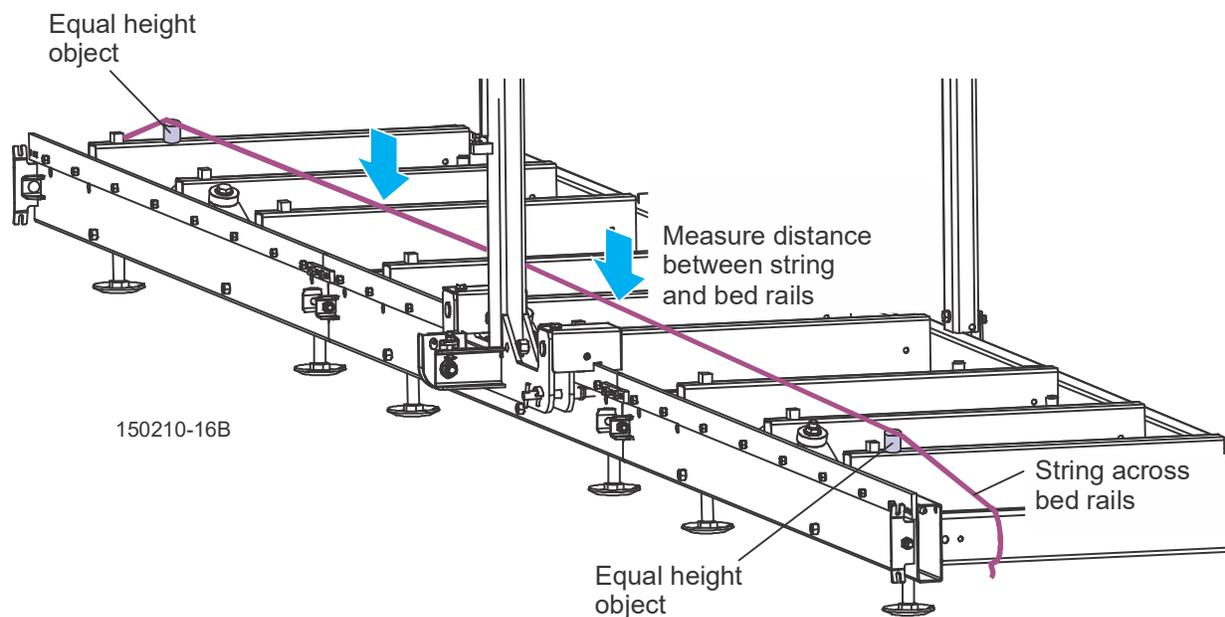

FIG. 4-1
5. Adjust the frame legs until all bed rails measure the same distance from the string. See FIG. 4-1.